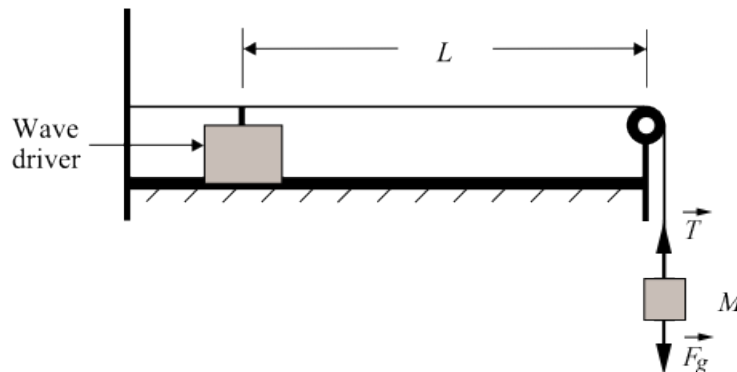

Figure 4: Waves on a string setup Image: ©and courtesy of PASCO scientific
The lab apparatus consists of a string, which is fixed on one end and attached to a weight hanger over a pulley on the other end as shown in Fig. 4.
In Fig. 4, L is the distance between the top of the pulley and the wave driver. Both of these points will be **nodes**.
- 3 Calculate the tension in the string. The mass of the weight holder is 50 g. (Hint: Refer to the force diagram in Fig. 4.) Remember to include the mass of the weight holder.